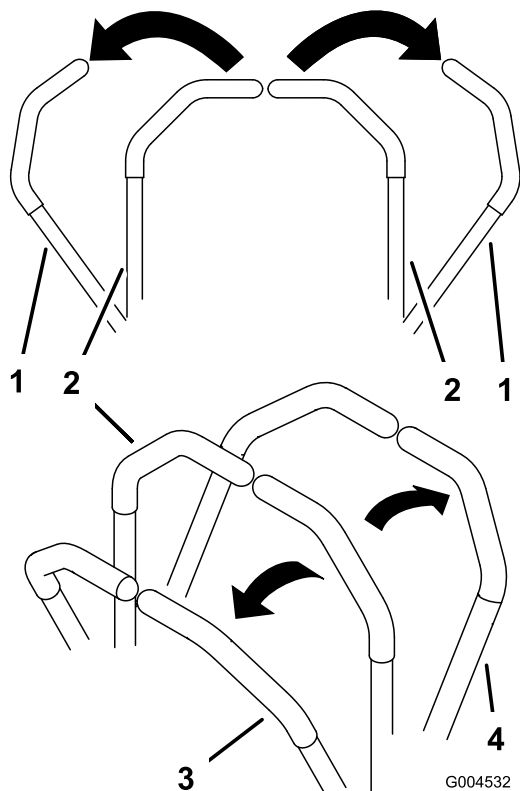

Figure 15
1. Move the motion control levers (Figure 15) out to the neutral lock position.
3. To go forward, slowly push the motion control levers forward (Figure 15).
To go straight, apply equal pressure to both motion control levers (Figure 15).
To turn, move the motion control lever toward neutral in the direction you want to turn (Figure 15).
2. To go backward, slowly pull the motion control levers rearward (Figure 15).
To turn, release pressure on the motion control lever toward the direction you want to turn (Figure 15).